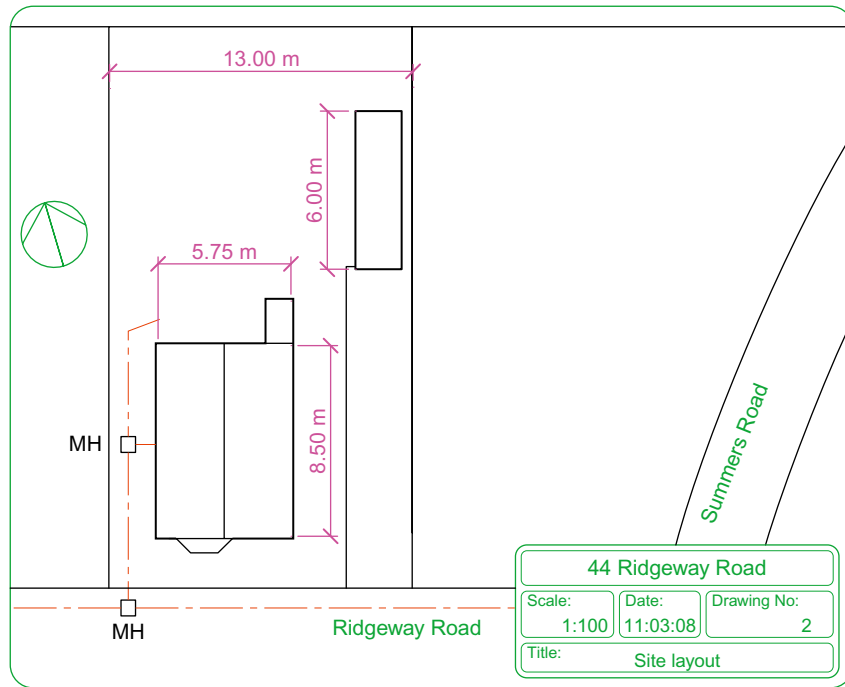

Fig. 16.2 A site layout plan
2. A site layout plan of the original house, drawn to a scale of **1:100** (Fig. 16.2).
Details of shapes and dimensions for the first two examples are taken from the drawings of the building and its extension at 44 Ridgeway Road given in Figs 16.2–16.6.
Details of the first example are taken from Figs 16.2–16.4 on pages 329 and 330.